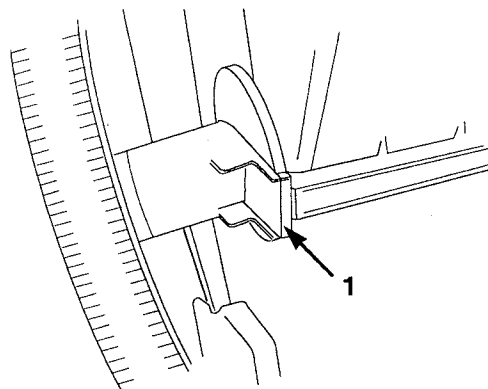

Figure 73
2. Rotate the axle supports so the raised rib points forward, away from the L-shaped bracket (Fig. 73).